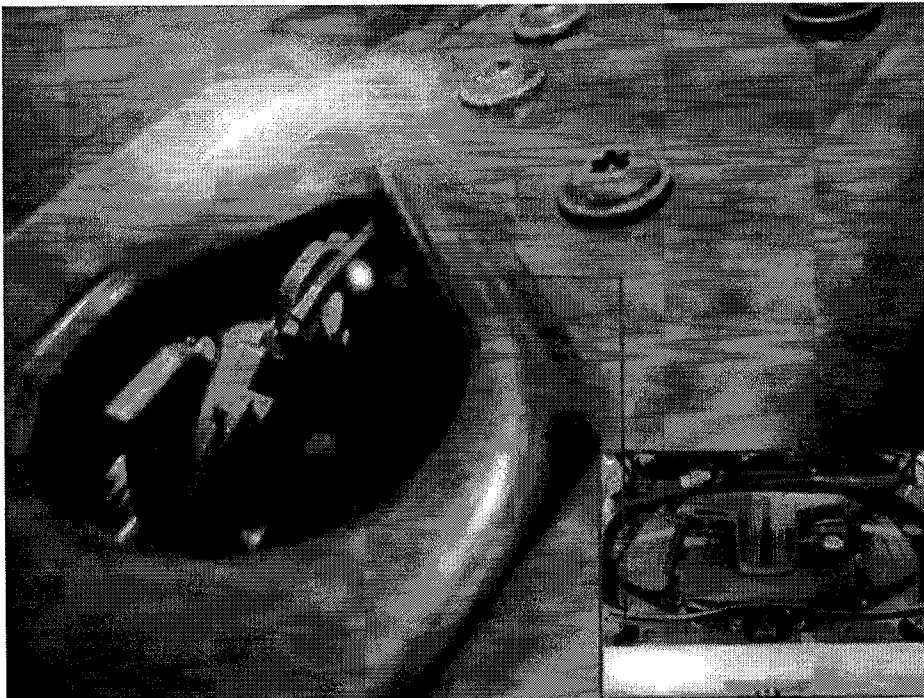

Figure 5
The specification calls for a hose clamp that is 8mm wide some vehicles have been fitted with a clamp that is 12mm wide. If the clamp is 8mm wide then no further action is required in respect to procedure 1, apply the yellow paint campaign marker as per figure 5 and carry out procedure 2.
10. Apply yellow and white campaign identification marks (see Figure 5)
3. If the fuel hose is correctly clipped then refit the front undersheet and apply a white paint campaign mark to the bonnet primary latch, right hand (see Figure 5). If the hose is not correctly clipped then carry out the following
5. Apply a white paint campaign mark to the bonnet primary latch, right hand (see Figure 5)